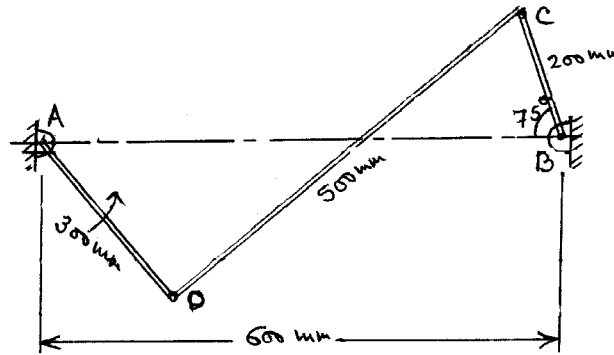

Fig. 1
- (d) Find the angular velocity of connecting link CD and that of link AD shown in **Fig.1** when link BC has a constant angular velocity of 2 rad/sec.